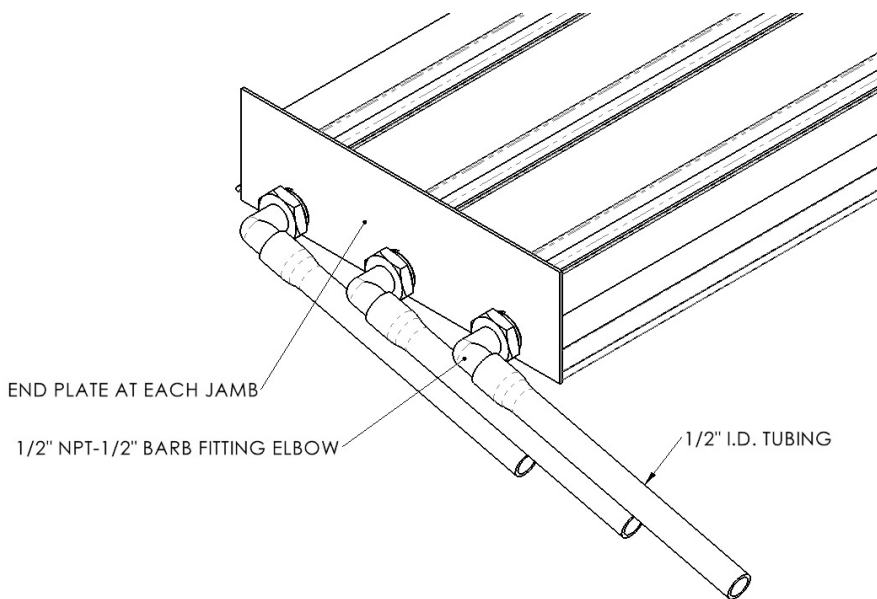

Figure 5
- Side Drain Fitting Sill (See Figure 5)
Screw the ½" NPT pipe to ½" hose barb fittings using tread sealant or Teflon tape to the ends of each track. Push fully the ½" minimum inside diameter hoses onto the barbed fittings and route to an appropriate drainage location, ensuring that the hoses have a continuous downward slope of at least ¼" per foot. (See Figure 5). Proceed to step 10.